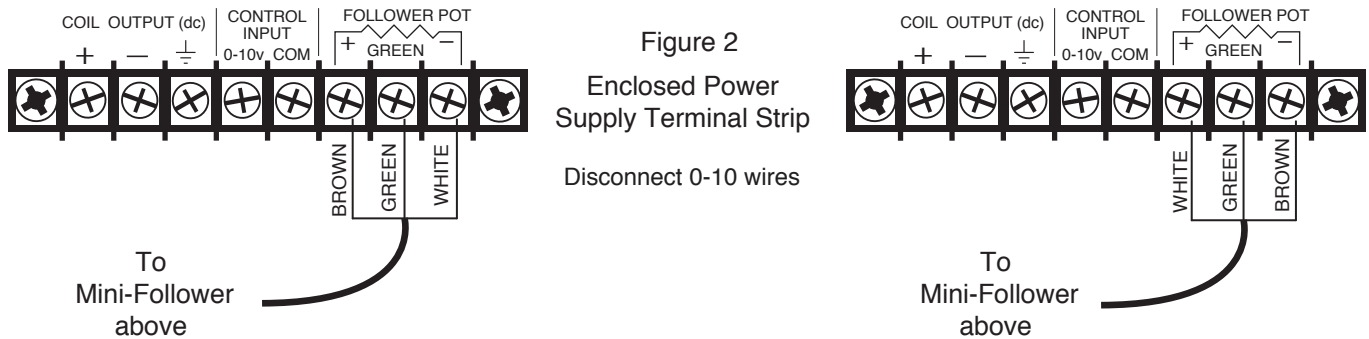

Figure 2
- 2) Connect the 3 wires from the Follower Arm Potentiometer to the terminal strip on the rear of the power supply, as shown in Figure 2.